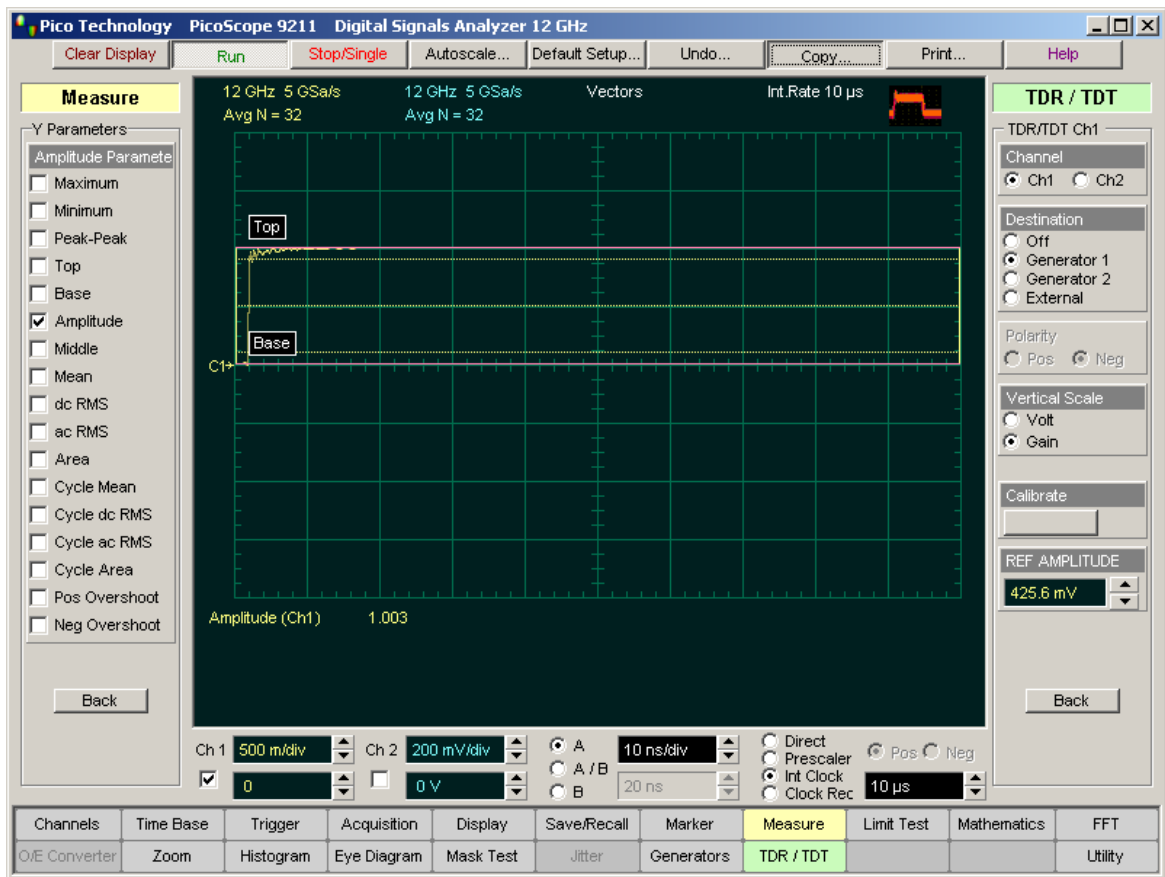

Figure 2
7. Click Gain in the Vertical Scale menu. See Figure 2.
Figure 2 shows that the gain value is close to 1.00 when the DUT is not installed in the TDT measurement circuit.